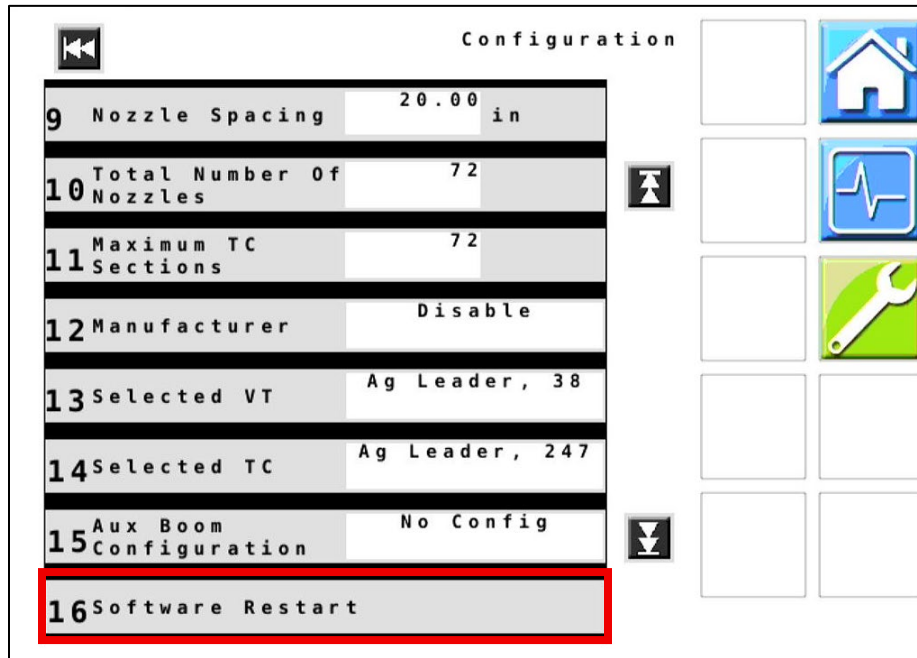

Figure 24 – Configuration Menu – Page 2
49. **Figure 24:** Navigate to **Page 2** and tap **Software Restart**.